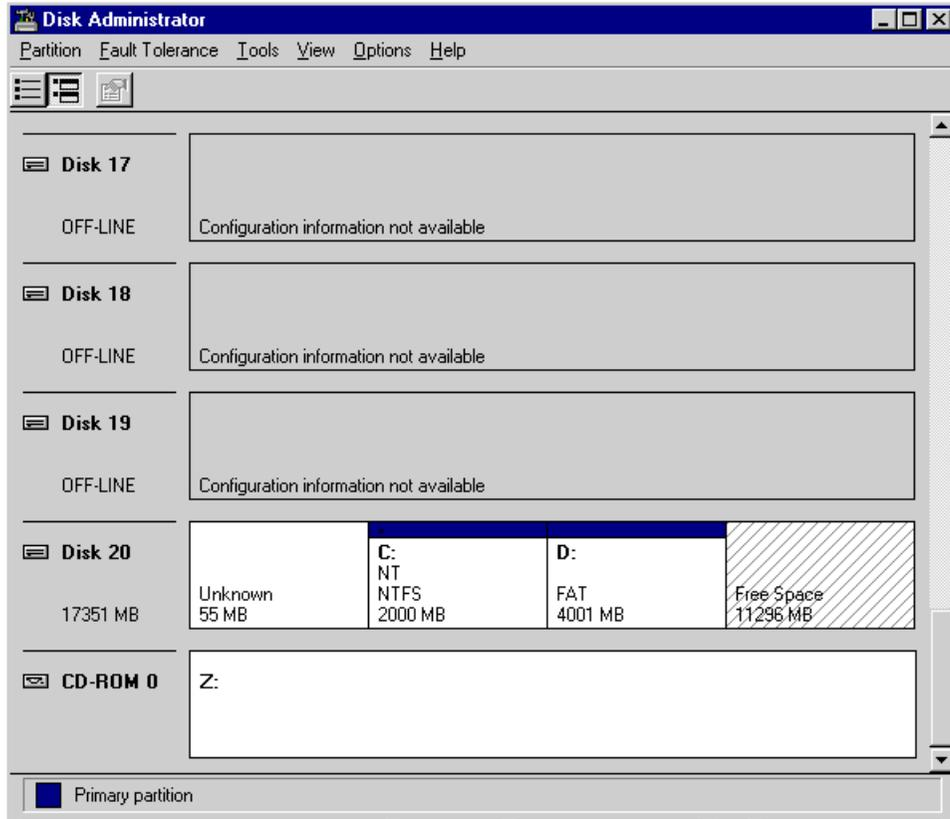

Figure 51. Shows how SDD handles presentation of two paths to 10 volumes
- Run Disk Administrator to check that the host only sees the correct number of online and offline disks (in this case ten online, ten offline). See Figure 51.